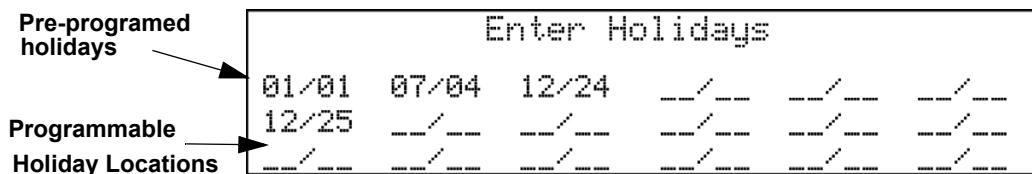

Figure 9-12 Edit Holidays Screen
4. Select 3 for Holiday Days. A screen similar to that shown in Figure 9-12 will display.